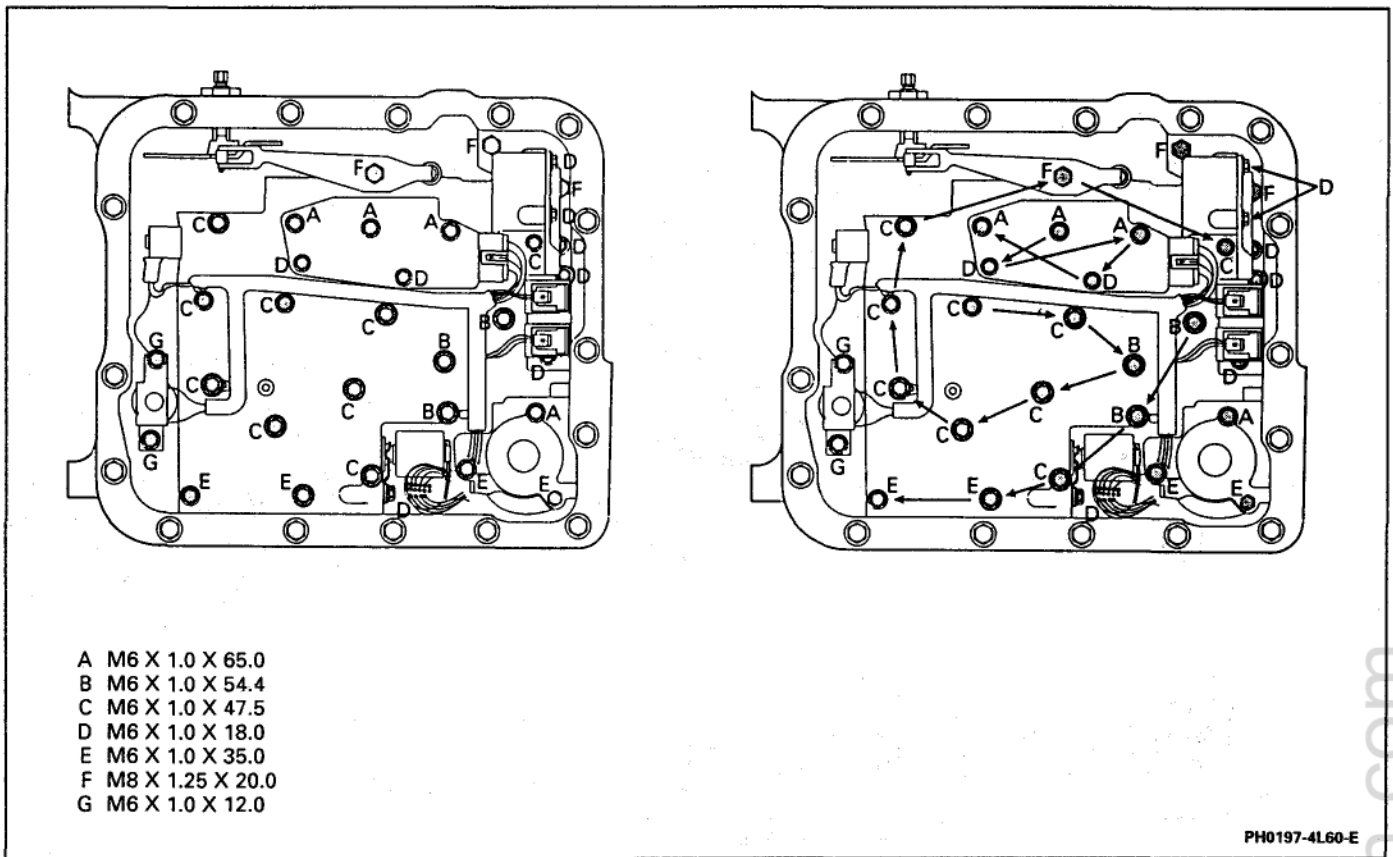

Figure 22 – Valve Body Bolts/Screws and Tightening Pattern
NOTICE: Install all valve body bolts/screws then torque in a spiral pattern starting from the center (see Figure 22). If bolts/screws are torqued at random, valve bores may be distorted and inhibit valve operation.
- All bolts/screws in the pattern shown in Figure 22 to 11 N•m (97 lb. in.).